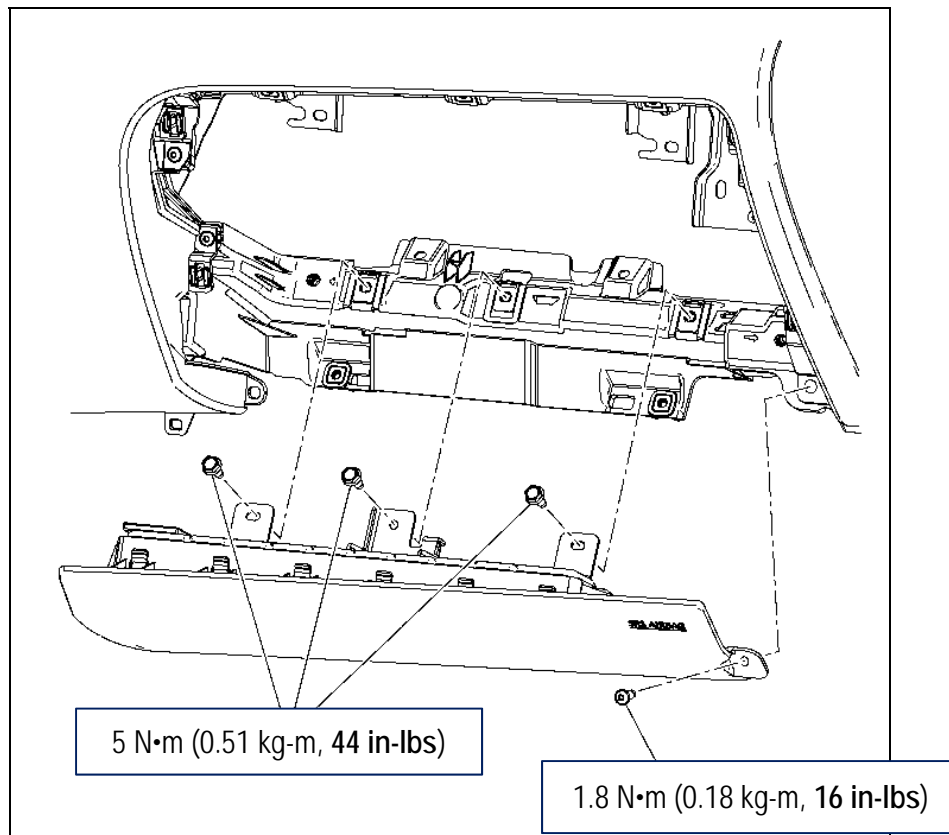

Figure 7
11. Install the NEW module. (See Figure 7 for module torque specifications).